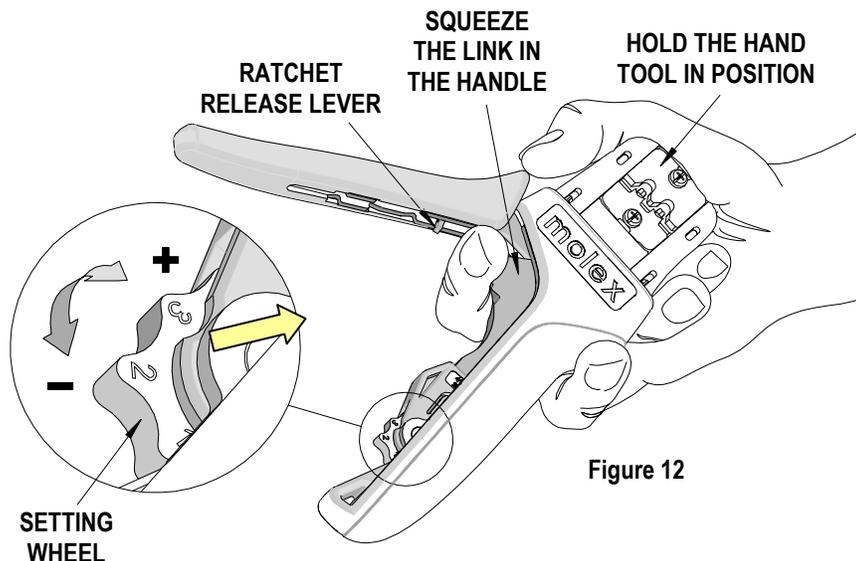

Figure 12
### How to Adjust Tool Preload (See Figure 12)
1. Hold the hand tool in the palm of your hand as shown in Figure 12. Using the index finger squeeze the link towards the top of the hand tool frame. This will release the preload adjustment wheel.